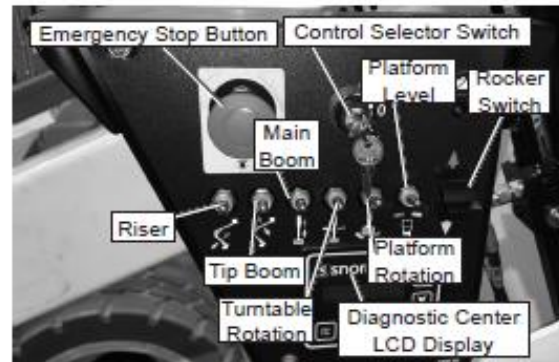

Figure 8.4 – Lower Controls
2. At the lower controls twist the emergency stop button outward clockwise to the on position (refer to Figure 8.4).